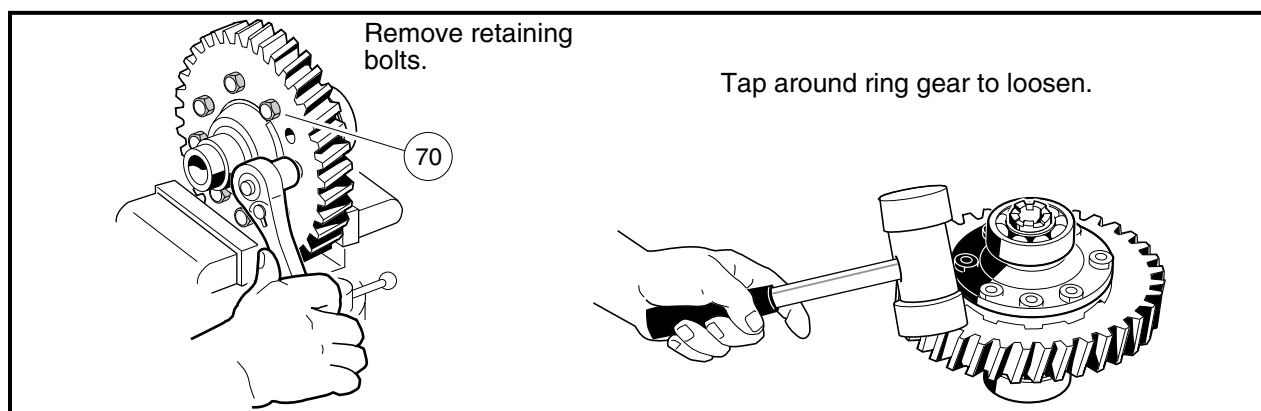

Figure 16a-51 Remove Ring Gear
6. Remove the remaining (opposite side) differential gear (80) from the carrier case (**Figure 16a-48, Page 16a-23**).
7. If the bearings (68 and 69) are to be removed, place a bearing puller wedge attachment (CCI P/N 1012812) between the bearing (69) and gear case (73) (**Figure 16a-48, Page 16a-23**) and press the bearing off as shown (**Figure 16a-53, Page 16a-25**). Repeat the process for the bearing (68) on the carrier cover (76) (**Figure 16a-48, Page 16a-23**). See following **CAUTION**.